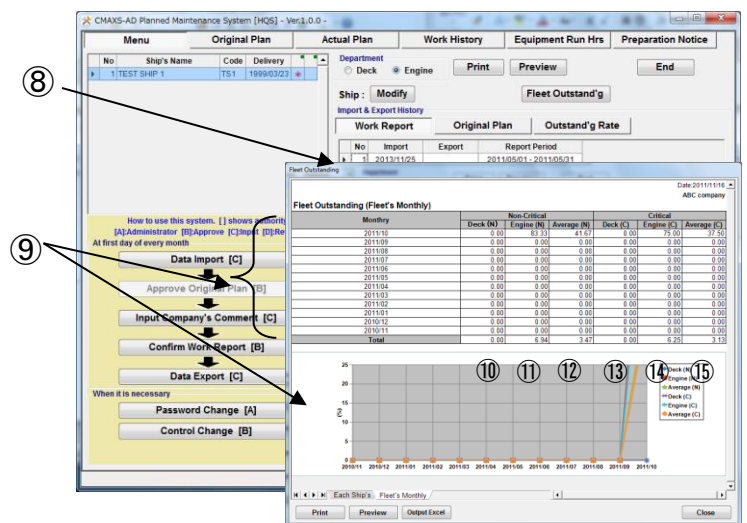

Fig.16-2 Fleet's Monthly Screen
- (8) Select [Fleet's Monthly] (Fig.16-2). Fleet's Monthly Screen is displayed.
- (9) You can see the average of ship's rate of per month.
- (10) Non-Critical Equipment per month on Deck part's Rate.
- (11) Non-Critical Equipment per month on Engine part's Rate
- (12) Average of Non-Critical Equipment per month on Deck part & Engine part
- (13) Critical Equipment per month on Deck part's Rate
- (14) Critical Equipment per month on Engine part's Rate
- (15) Average of Critical Equipment per month on Deck part & Engine part